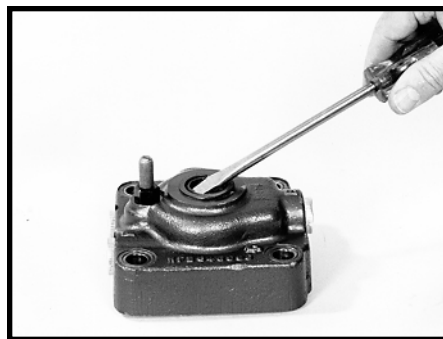

Figure 64
- 26. Remove and discard the two backup O-rings (14) from the grooves in the valve sleeve (15).
- 27. Remove and discard seal ring (10) and, if included, the automatic bleed passage way O-ring (20E) from valve housing (9).
- 28. Remove and discard the dirt and water seal (4) SEE FIGURE 64.